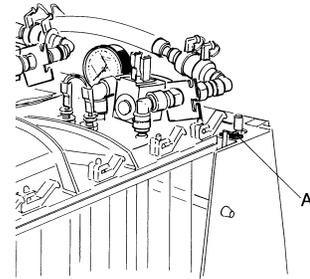

FIGURE 5
- Switch the main switch to the ON position (1).
- Put the switch (A) into the ON position (1) see FIGURE 5, switch A controls the flow of the product in the bowls.